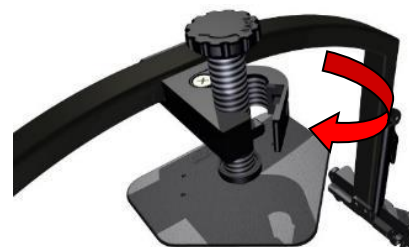

Figure 2
2. Position the screw in the highest position by opening the locking system, pulling the screw upwards and closing the locking system again. (Figure 2)